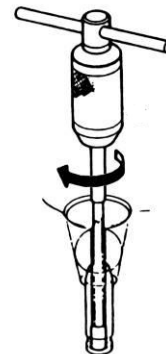

Figure 4-22: Valve Guide Reamer 6.6 mm (0.2598 in.)
2. See Figure 4-22. Rotate the reamer clockwise through the valve guide for the full length of the reamer.